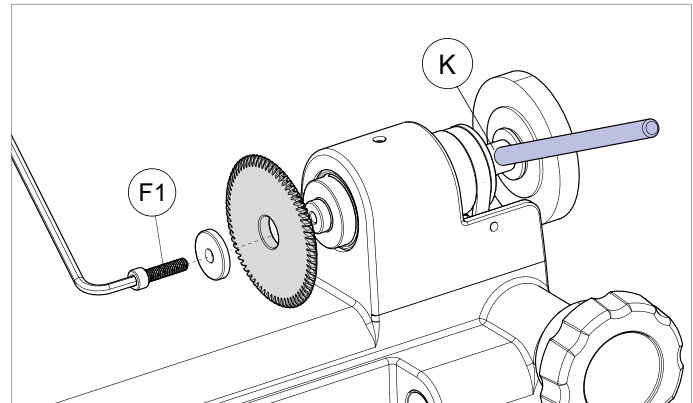

Fig. 30
- 2) Slot the locking rod (provided) into the hole (K) of the cutting tool shaft (Fig. 30).